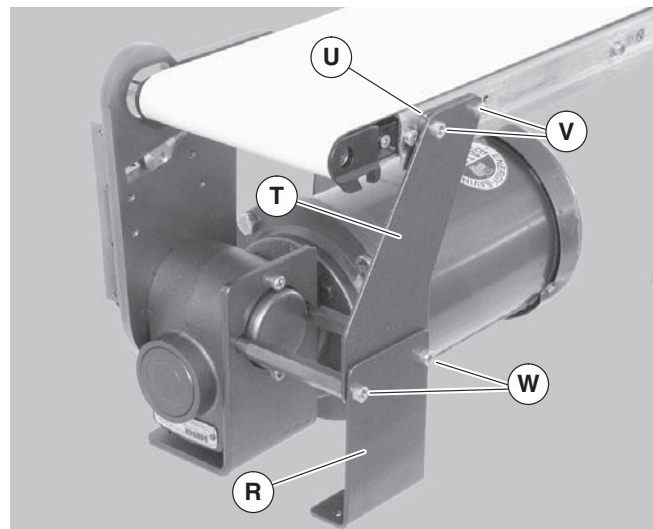

Figure 24
4. Remove screws (Figure 24, item V & W) and remove support bracket (R), support plate (T) and spacer (U).